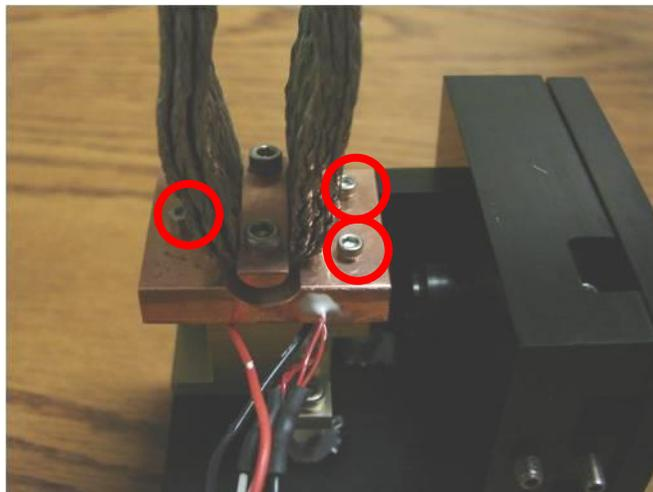

Figure 24: Three fasteners secure TMA to YAG crystal holder
- 4.25. Remove the TEC and the TMA by taking out the three 2-56 screws securing the TMA to the crystal holder (Figure 24). When these screws are removed, take note of the tension on the screws, as it is important not to tighten them too tightly when reassembling the unit. Also pay attention to the orientation of the Thermo-Electric-Cooler (TEC) before removing, because if the TEC is put back in upside down, a thermal runaway condition will result when the SP2 software attempts to regulate the crystal temperature. The unit must be handled carefully as the parts will be attached at the connector.